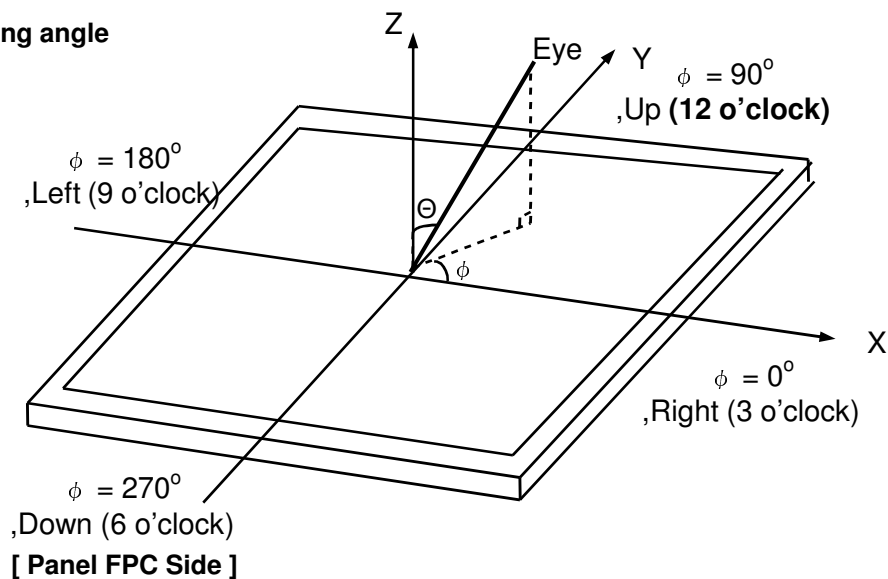

**Fig. 5 Response Time**
4. Response time is the time required for the display to transition from white to black (Rise Time,  $Tr_R$ ) and from black to white (Decay Time,  $Tr_D$ ). For additional information see Fig. 5.